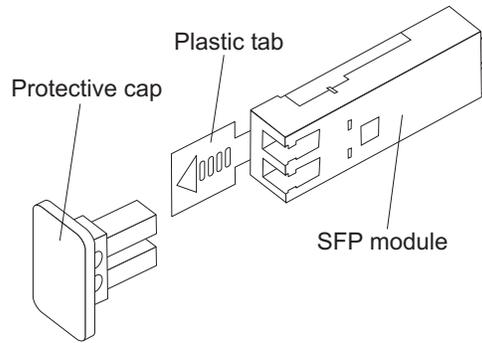

Figure 24. Installing an SFP module into the host port
4. Insert the SFP module into the host port until it clicks into place. See Figure 24 on page 49.